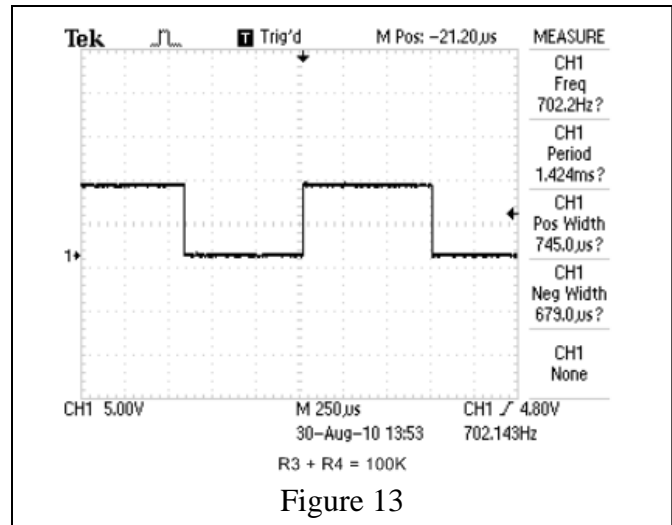

Figure 13
**One more time.** To reinforce the math, I set the value of the variable resistor to 53 K (using a VOM). The resulting screen shot with the CPO operating with this resistance setting is in figure 13. Doing the same calculations above but with R4 = 53 K, the following results were obtained: